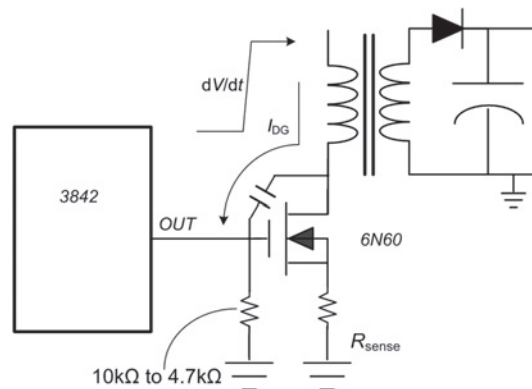

Figure 1-8 Spurious Turn-on of Fet under Power-up
- Another possibility to consider is that of *hidden modes* of operation. I would say these are truly the hardest to figure out, simply because you didn't know that particular mode even existed prior to that. This may or may not be a flaw in the control IC. Maybe that is just the way it is. For example, once, we were seeing some sporadic, utterly mysterious failures of the Fet in our 3842-based Flyback whenever 270VAC was suddenly applied at its input. After a lot of investigation and analysis, I finally had my theory validated. It was happening like this. When power was suddenly applied, there was naturally a sudden increase in the voltage at the Drain terminal of the Fet. But some of this rising dV/dt fed a current through the parasitic Drain-to-Gate capacitance, pulling up the gate. See Figure 1-8. Though the Gate had a hardwired $10k\Omega$ pull-down resistor to ground, it was apparently not